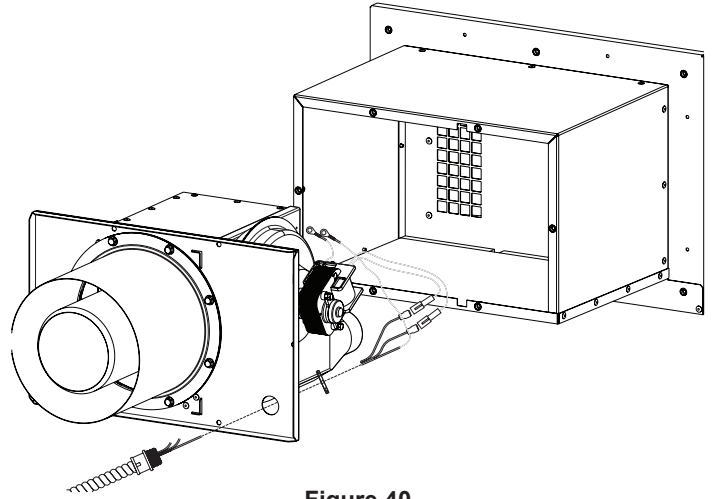

Figure 40
2. Insert a strain relief bushing through the 7/8 inch hole on the rear panel and insert minimum 18 gauge wiring (field supplied). **See Figure 40** below.